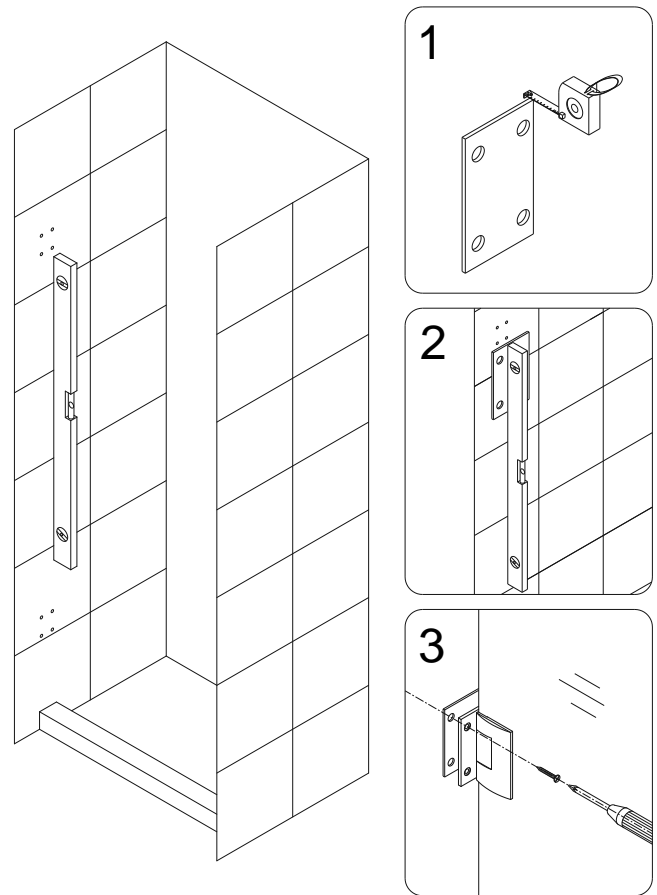

Fig. 4
The included PVC hinge spacers (31) are provided to compensate for minor out-of-plumb wall conditions. Use only as necessary as their use could compromise the opening size of your shower. Please see Fig 4 for an installation example*.
4. Place the **Door Glass (01)** back onto the threshold along with the 5/8" spacers and attach both hinges to the wall with two **Countersunk screws ST5x70 (04)** on the hinge from outside of the shower. Then open the door and install the remaining screws to both wall plates from the inside.
(Fig 3 and Fig 4)